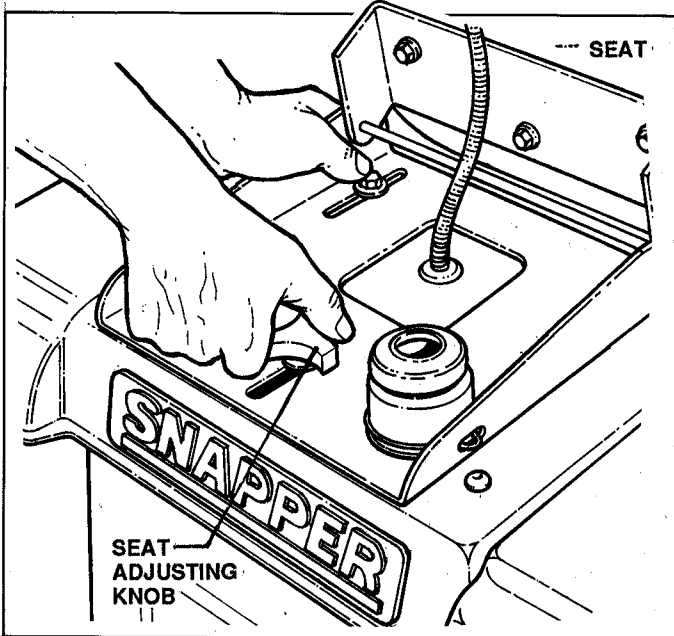

FIGURE 8
- RE-ADJUST SEAT as needed to most comfortable position. (Refer to Pages 5 & 6, Figure 8)
FORE & AFT ADJUSTMENT: With machine stopped, loosen the **ADJUSTING KNOB** on seat support. Sit in operator's seat and, while depressing the **CLUTCH/BRAKE PEDAL**, slide the seat forward or rearward to the most comfortable position, then lock in position by tightening **ADJUSTING KNOB**. See Figure 8.